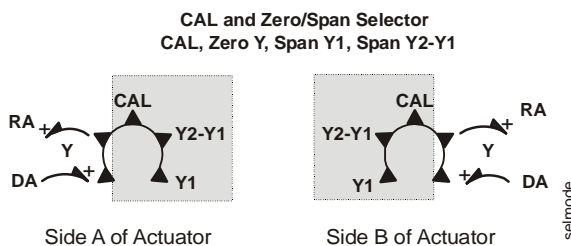

Figure 14: CAL Operation Setup (highlighted)
1. With power off, move the mode selection switch to the CAL position (Figure 14). Then, energize the actuator. The actuator automatically rotates until the end-stops are found and proportionally reconfigures the control input range to the reduced rotation range.
The command voltage value for a minimum hub angle (the zero setting) and the change in command value required to travel the total hub angle (the span) are adjustable (Figure 14). These settings are with respect to the minimum hub angle and the total travel distance defined during the CAL function. If the actuator is powered on, the Span voltage can be set right after the Zero voltage is set without first powering down the actuator.
1. With power off, set the mode selector switch (Figure 14) to the zero (Y1) position.